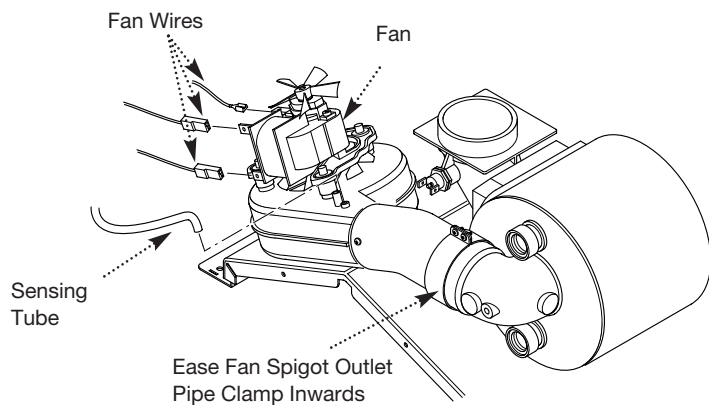

Fig. 42
7. Note the positions of the three wires on the fan motor and remove them. Remove the sensing tube from the fan spigot (Fig. 42).